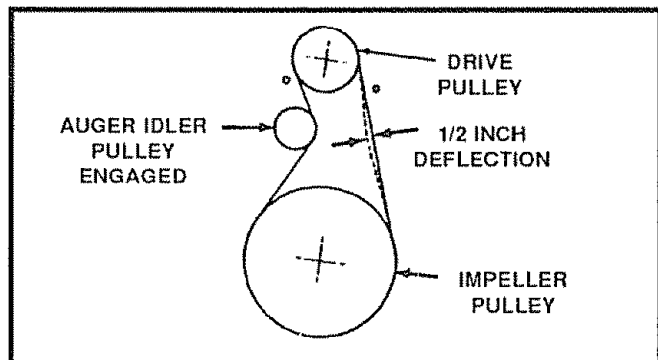

FIG. 24
- Loosen the nut on the idler pulley (See Fig. 24) and move the pulley toward the belt about 1/8"
- Press the auger drive lever. Check the tension on the belt (opposite auger idler pulley). The belt should deflect about 1/2" with moderate pressure (See Fig. 24).